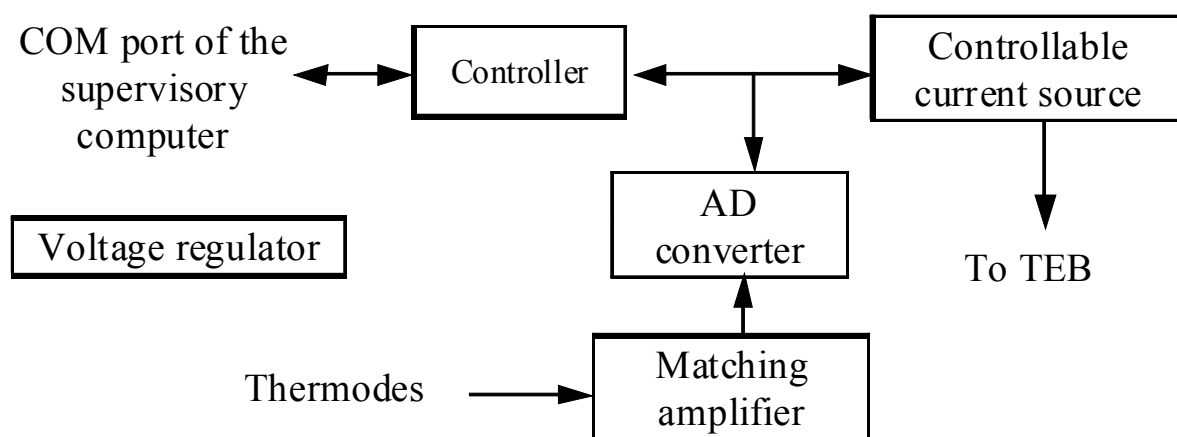

Figure 2 – Functional scheme of EB
Functional scheme of the matching electronic block (EB) is given in figure 2.